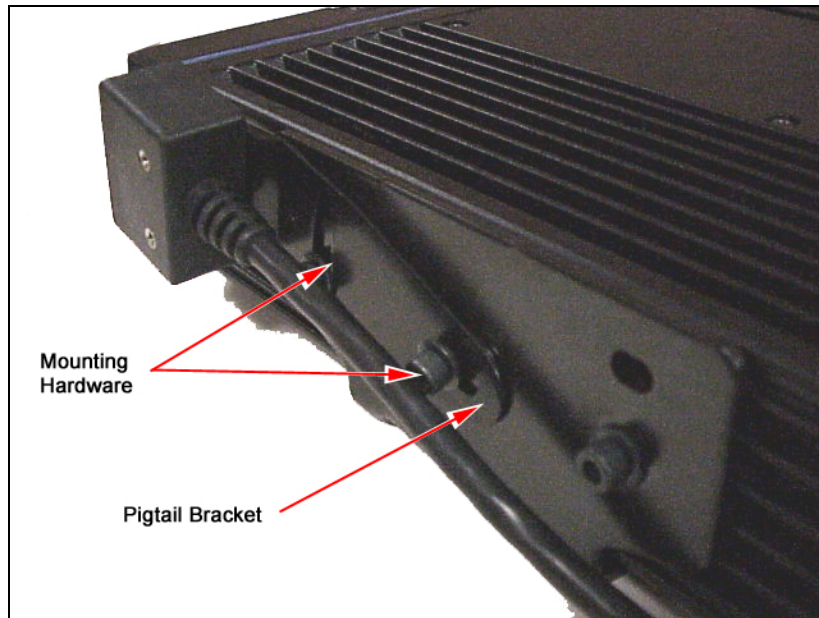

Figure 17 – Pigtail Bracket Mounted on Radio
5. The other slot in the Pigtail Bracket will enable flexible positioning of the pigtail. Position the bracket, insert the remaining M4 x 10mm hex head screw and lockwasher. Tighten both of the hex head screws to maintain the desired Pigtail position. See Figure 17.